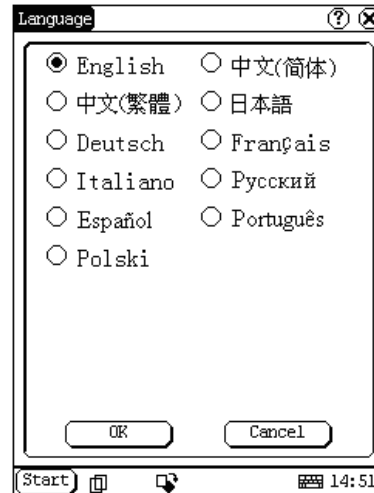

Figure 4-45
- 1) In the Control Panel interface, click 'Language' icon to open the Language interface. See Figure 4-45.